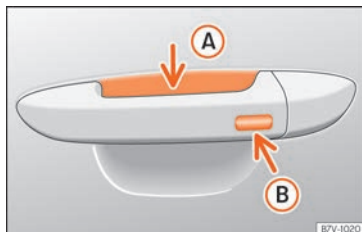

Fig. 150 Driver door lever: sensor surfaces.
- Press and hold the locking sensor surface >>> **Fig. 150** (B) on the door handle to close the sunroof. If you release the sensor surface, the closing movement stops.